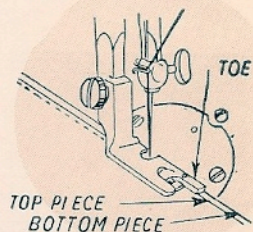

Fig. 30
1. Lay two pieces of cloth one on top of the other with their **RIGHT** sides facing each other. The right edge of the bottom piece must extend about $\frac{1}{8}$ inch beyond the right edge of the top piece. See Fig. 30.
2. Sew both pieces of cloth together using the hemmer foot like a regular presser foot. Use the right edge of long toe of hemmer foot to guide the bottom piece of material, while the left edge of the same toe serves as a guide for the top piece of material. Fig. 30 shows this detail.